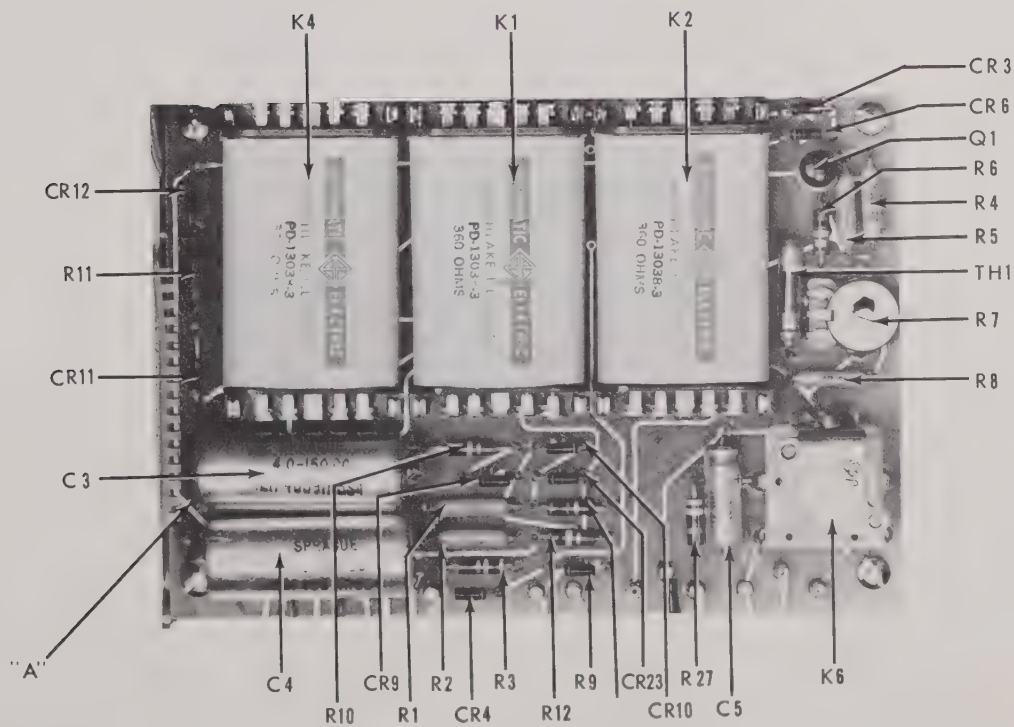

Fig. 6-2 CB2 Component Location
e. Using an oscilloscope, monitor the voltage appearing at point "A" on CB2. (See fig. 6-2, page 6-3).